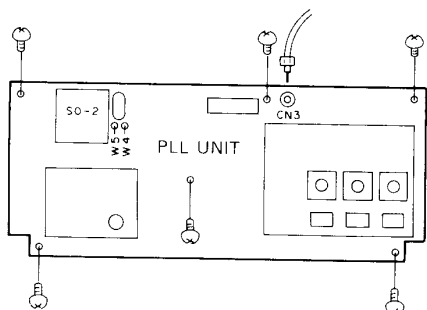

Fig. 4
Remove the screws holding the PC board (Fig. 4)
5. Cut jumpers W4 and W5.(Fig. 4)
6. Solder the SO-2 to the indicated area. (Fig. 4)
holding the PC board.(Fig. 4)